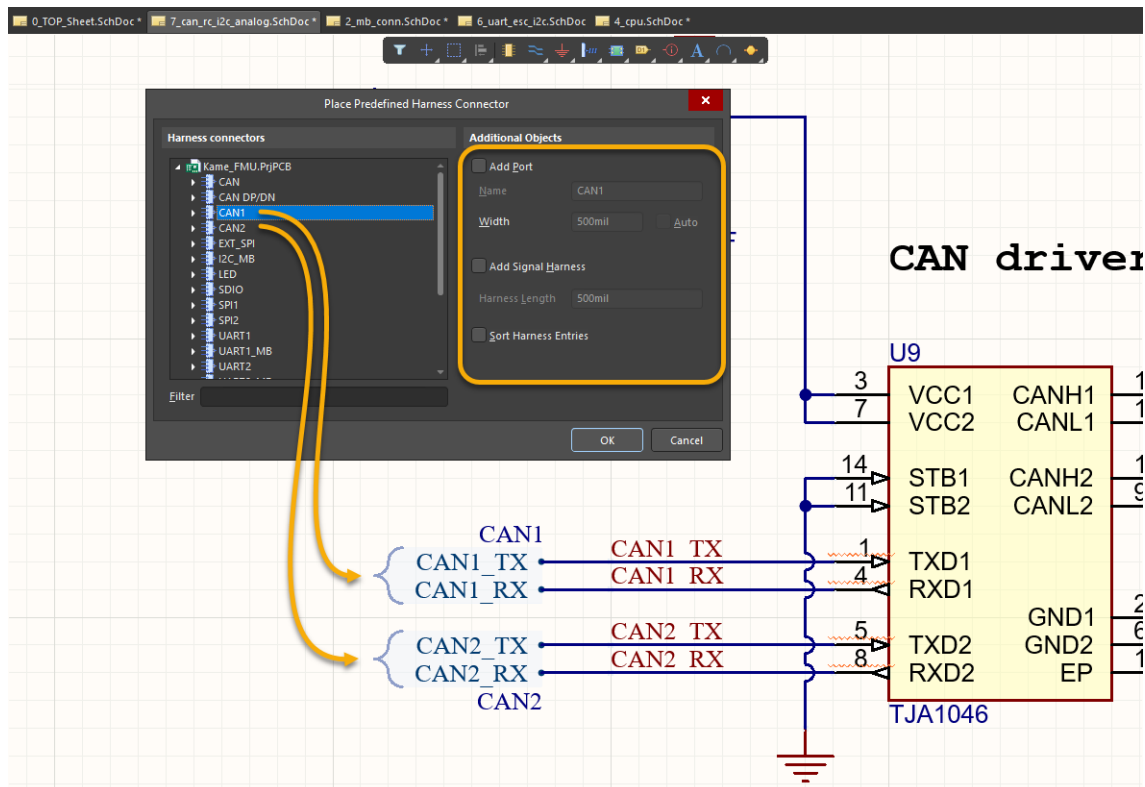

Figure 17. Page 7\_can\_rc\_i2c\_analog.SchDoc with two CAN harness
38. When the *Predefined Harness Connector* window appears, use the information below, along with Figure 17 to assign the following settings.
40. Place it onto the respective CAN1 wires as shown in Figure 17.